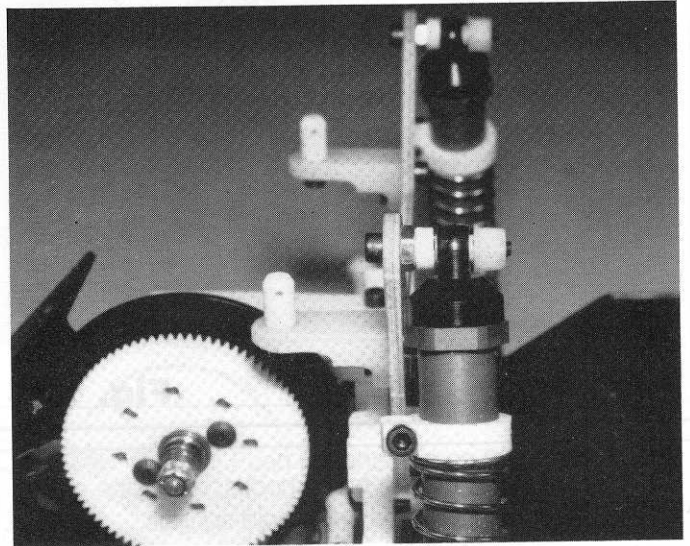

Fig. 128
□ **Fig. 128** Slip the upper end of the shock over the bushing and install the 4/40 nylon nut as before. Do the left hand side.